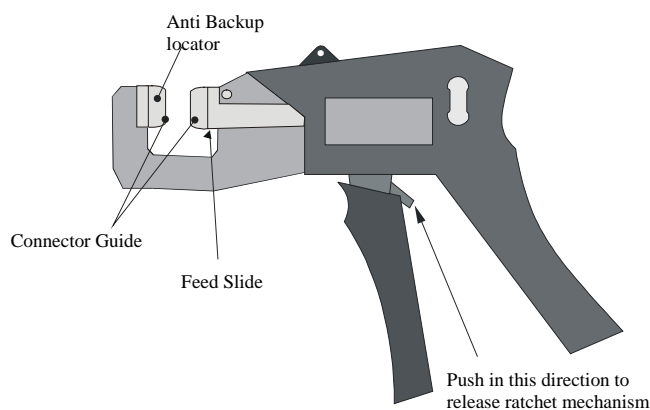

Figure B-1: Hand-Crimping Tool for 15-Pin D-Type Connector
- **Crimping tool**—hand-crimper code DW115394-1. The crimper is a cyclic crimper and will not release the cable until a full termination cycle has been completed. The tool automatically indexes to the next pin on completion of the terminating cycle.(See Figure B-1.)